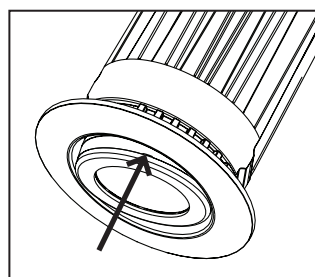

Figure 19
**Step 1.** Insert a small screwdriver into the slots between the gimbal face and body. Pry off the face. It may be necessary to pry in a few locations to pull the face evenly off. Optic will come free after the face is pulled off (Fig. 19).